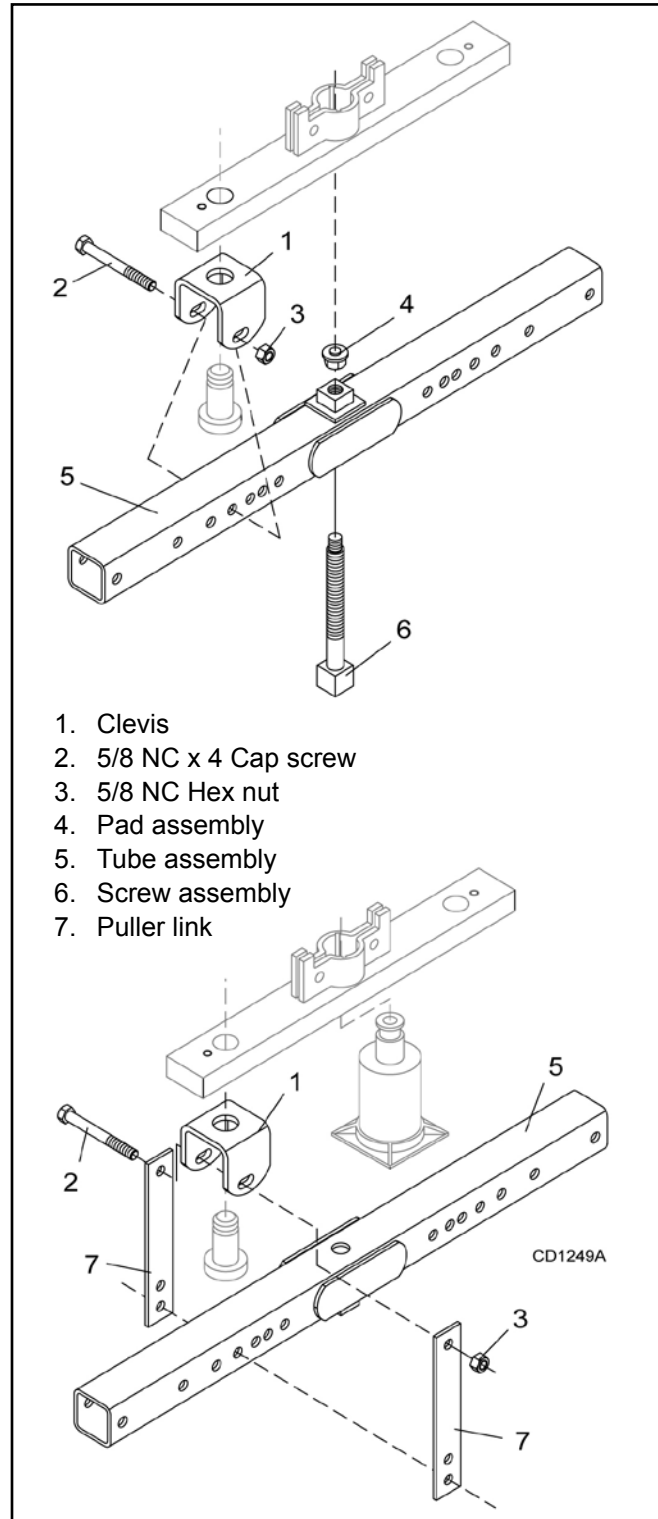

Figure 20. Crossbar Removal
NOTE: You will need to use either the puller screw (item 6, Figure 20) or a small hydraulic jack to remove the crossbar.
3. Remove cotter pin, castle nut, and washer from bottom of crossbar, Figure 20.
4. Attach a clevis (1) to each end of crossbar, using blade pins, spacers, keyhole plates, and blade pin clips.
5. Position tube assembly (5) with threaded nut toward crossbar for puller screw removal or down for hydraulic jack removal.
6. For removal with puller screw, attach tube (5) to each clevis with bolts (2) and nuts (3). Place pad (4) in nut and thread puller screw (6) into nut from bottom. Tighten until pad is solid against gearbox shaft. For best results, strike head of puller screw with a hammer while tightening with a wrench.
7. For removal with a jack, attach tube to each clevis with puller links (7), bolts (2), and nuts (3). Place jack on tube with end of jack pressing against gearbox shaft. Slowly apply force with jack.